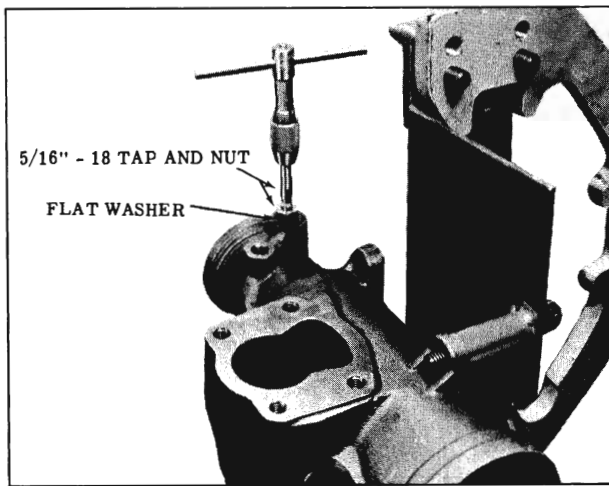

Fig. 4-64 Removing Connector Seat
3. With the steering gear in a vertical position, thread the tap into the connector seat not more than three turns. (Fig. 4-64)